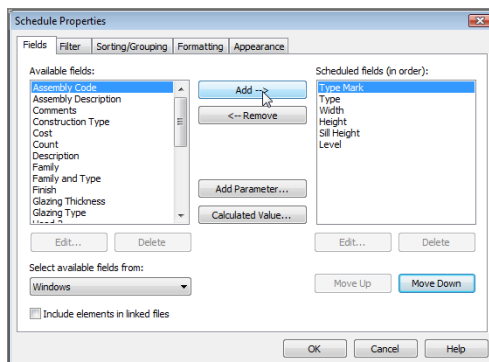

FIGURE 11.22: Adding fields to the schedule
3. In the Schedule Properties dialog, add the following fields (see Figure 11.22):